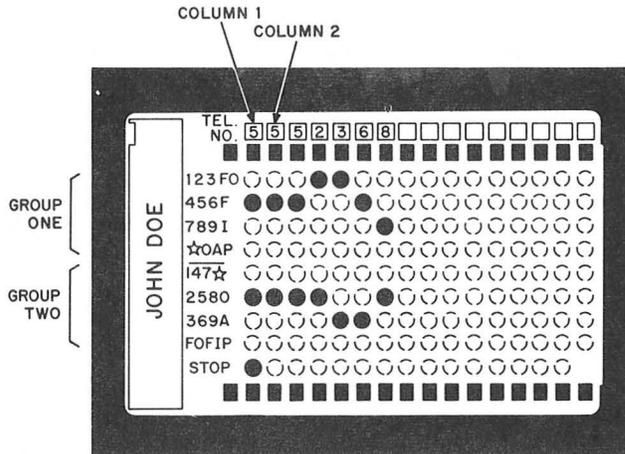

Fig. 9 — Card Coded For 7-Digit Telephone Number
- Write name and telephone number on card in space provided (Fig. 9).
Note: There are two groups of characters on the card (Fig. 9). A perforation must